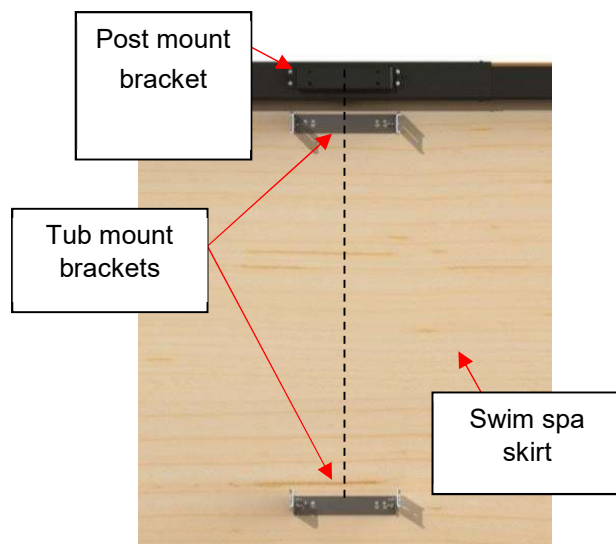
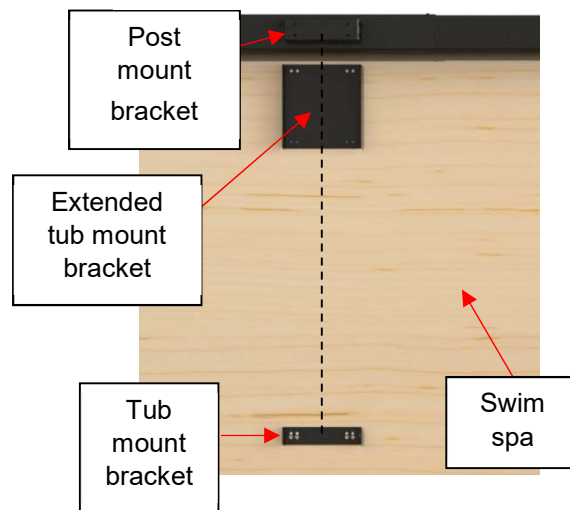

Figure 88
Figure 89
- 3) Fasten the tub mount brackets properly and strongly to the swim spa's frame (Figure 88). If the swim spa is over 54" high (137 cm), install the extended tub mount bracket (Figure 89). Use the provided Phillips #10 x 3/4" screws for fastening.
Note: Use measuring tape to center the tub mount brackets and/or extend tub mount bracket with the post mount bracket (Figures 88 and 89).